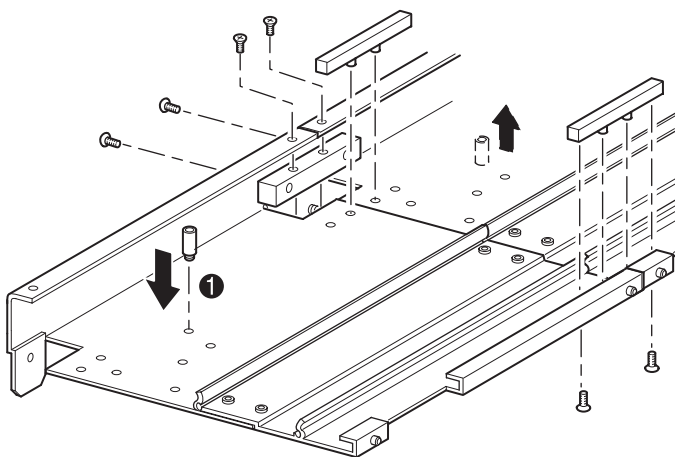

Figure 18 Installing tie bars
- b. Align the pins of the two narrow tie bars with the holes in the extension and PTM base unit (see Figure 18) and then attach them using four mounting screws (two screws for each narrow tie bar).
- c. Attach the large tie bar (beveled edge to the inside corner of the PTM base unit and extension) using four mounting screws (see Figure 18).
11. Remove the bottom stop standoff from the PTM base unit and then attach it to the corresponding mounting hole (see Figure 18) in the last unit of the extended PTM.